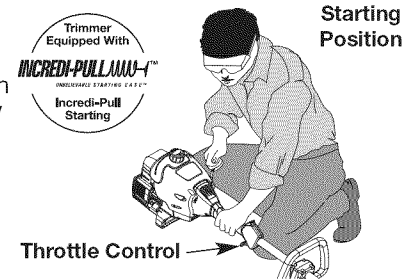

Fig. 4
**WARNING:** Avoid accidental starting. Make sure you are in the starting position when pulling the starter rope (Fig. 4). To avoid serious injury, the operator and unit must be in a stable position while starting.
4. Crouch in the starting position (Fig. 4). Do not squeeze the throttle, pull the starter rope with a controlled and steady motion until the unit starts. Wait 30 to 60 seconds, then squeeze the throttle to control the cutting speed. For temperatures below 50° F ( 10° C), please refer to the note below.